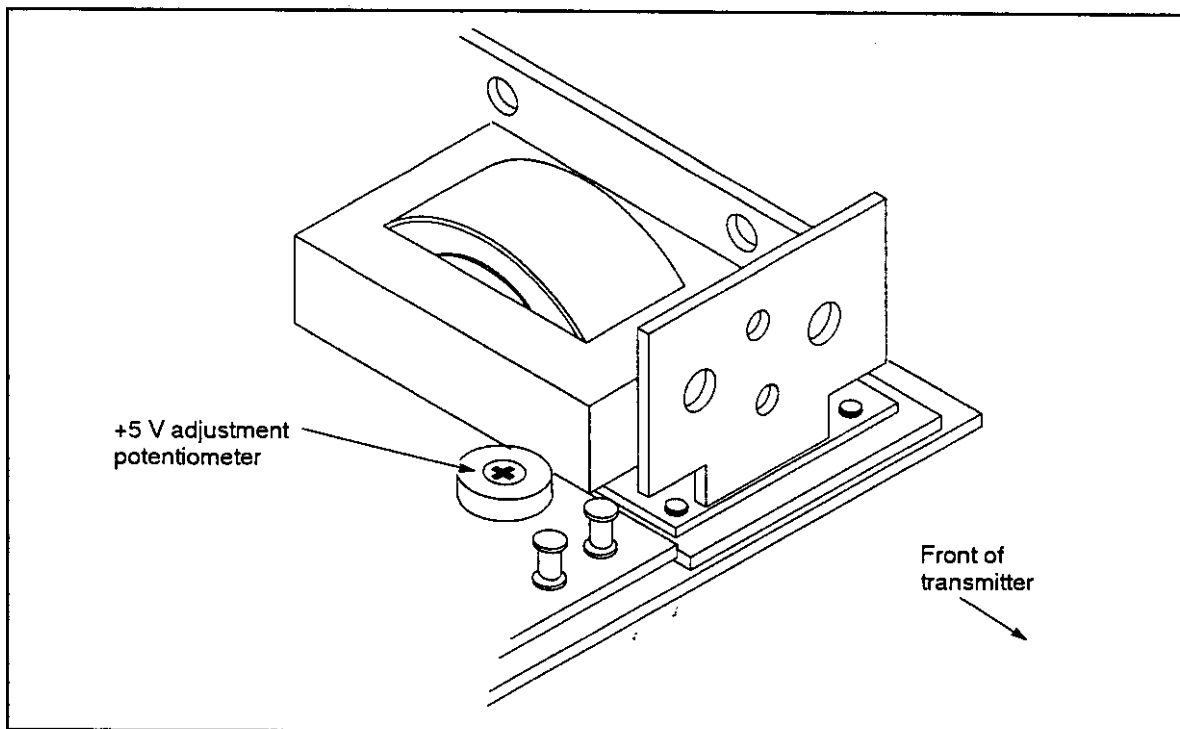

Figure 51. Location of the Transmitter +5 VDC Adjustment.
- c. If necessary to adjust the output level, use Figure 51 to locate the voltage adjustment potentiometer.